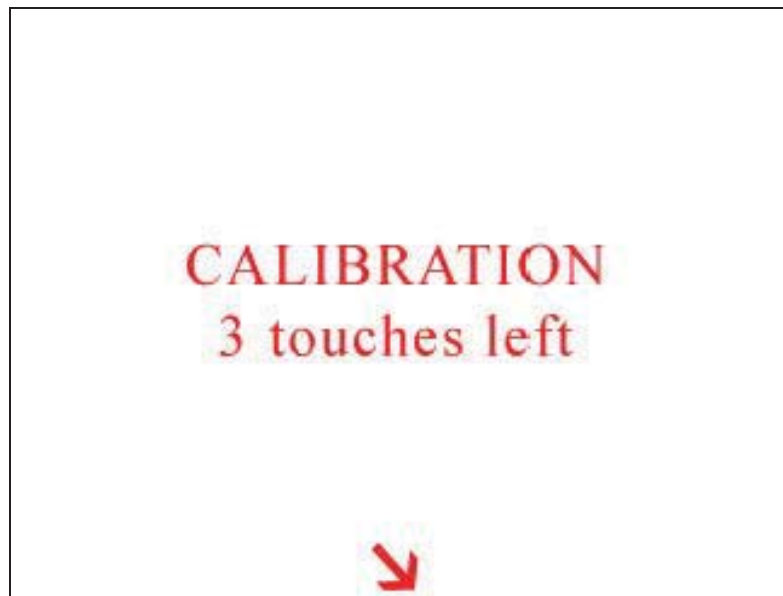

Figure 6-45 Final Alignment Screen
- The fourth alignment screen shown in Figure 6-45, displays the arrow in the at the bottom center of the screen. Touch the arrow three times to finish the alignment process.